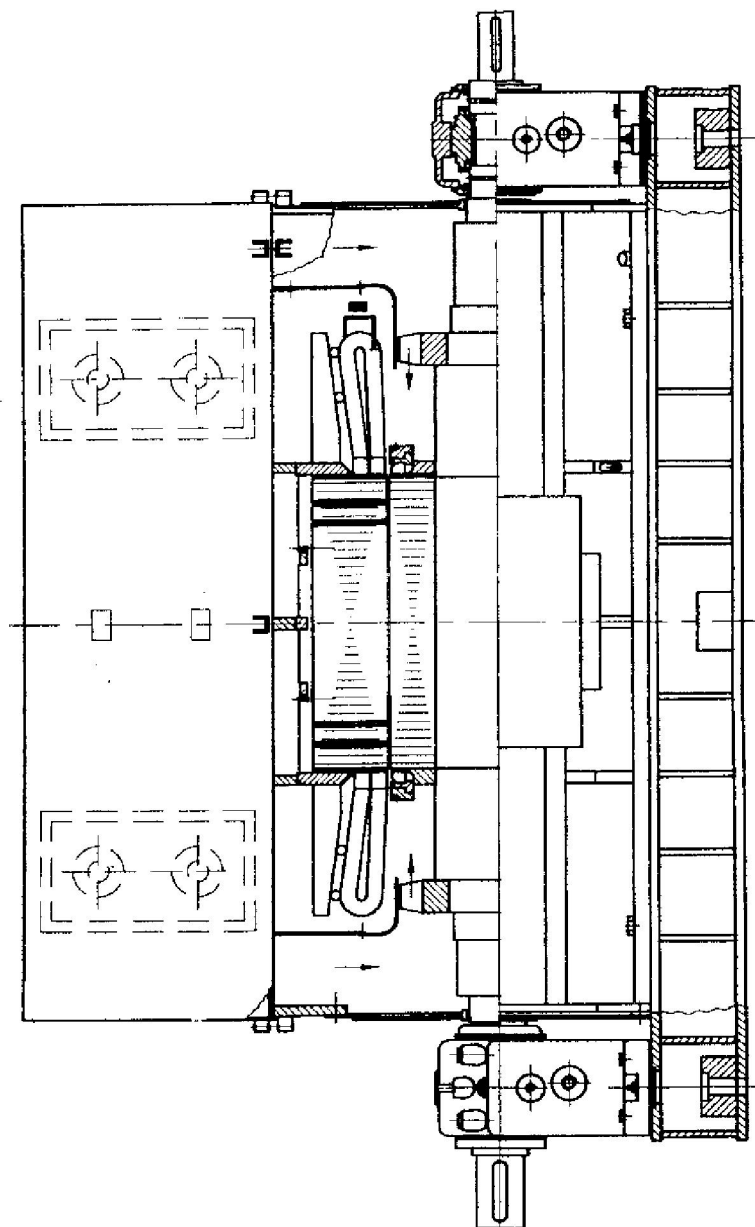
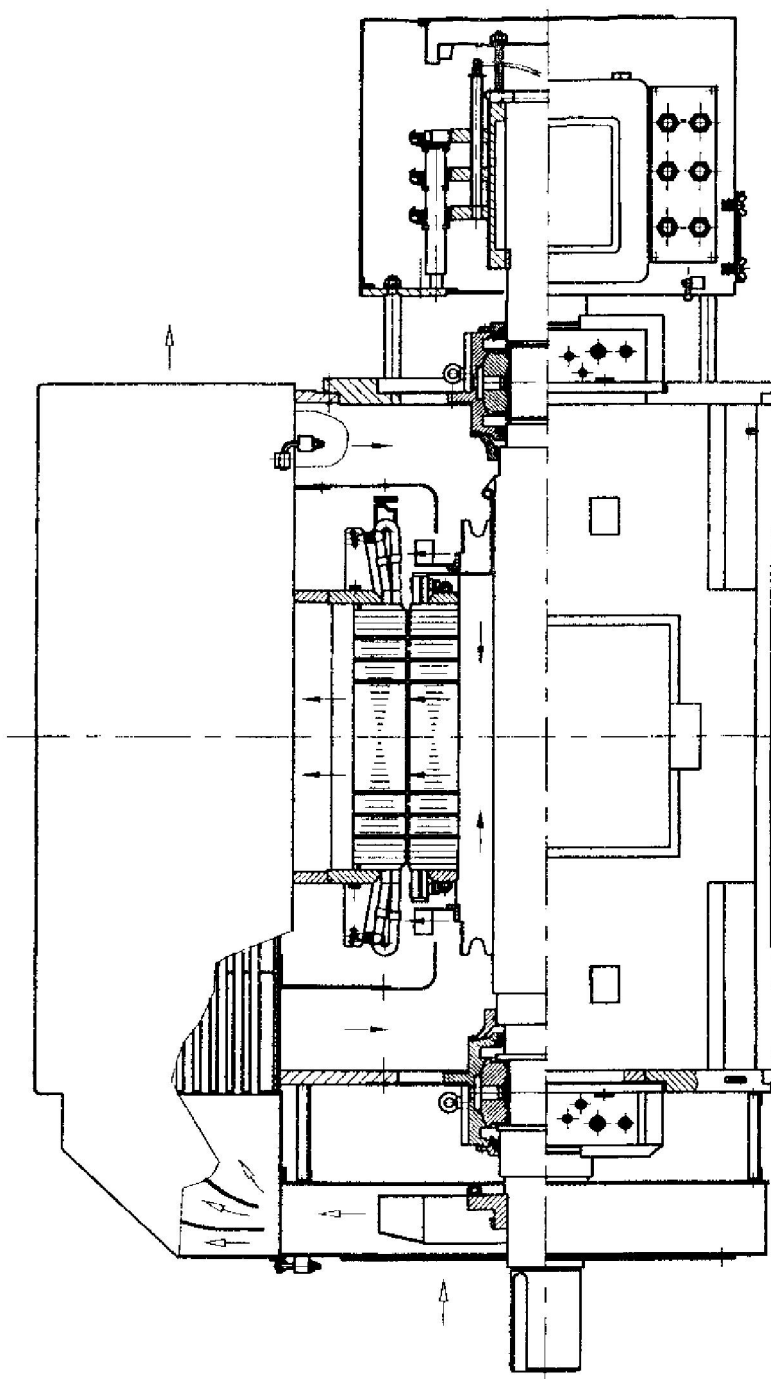

Fig. 7 Typical Assembly of YKS Motor
Fig. 8 Typical Assembly of YRKK Motor
2.1.1 Fig. 7, fig. 8, fig. 9 show the typical assembly samples of the motor with sliding bearing